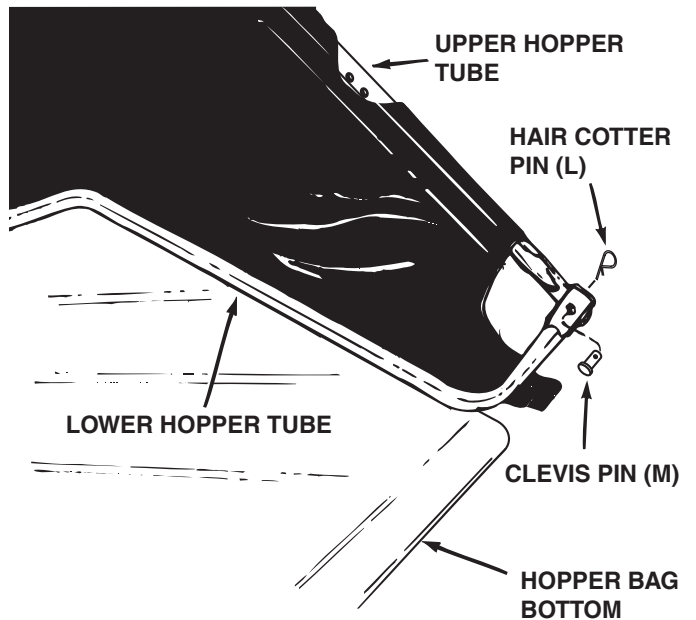

FIGURE 10
- Place the assembled lower hopper tubes into the bottom of the hopper bag and then slide the tubes to the back of the bag. See figure 10.
- Attach the ends of the lower hopper tubes to the **inside** of the upper hopper tubes using two clevis pins (M) inserted from the inside, and two hair cotter pins (L). See figure 10.